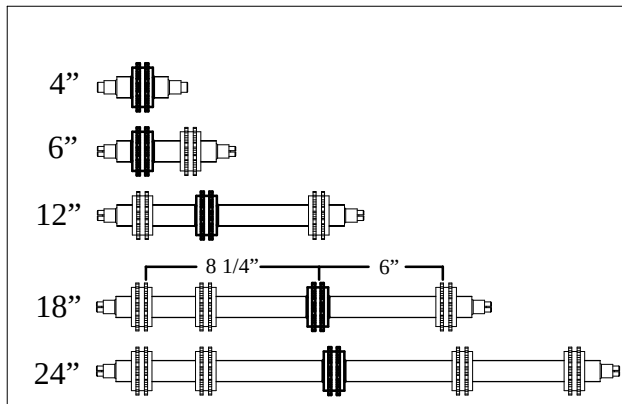

Figure 46
3. As required, install free moving sprockets as per Figure 46, items in bold are the fixed drive sprockets.
2. As required, install free moving sprockets as per Figure 46, items in bold are the fixed drive sprockets.